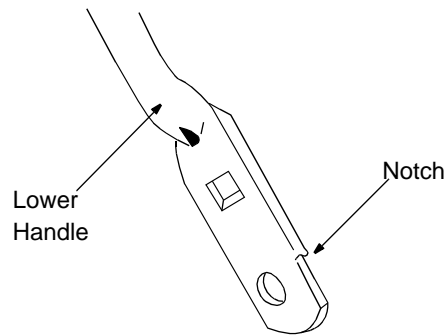

FIGURE 10
- Turn the lower handle around so the notch on the bottom of the lower handle is facing forward as shown in Figure 10. Reassemble, placing the bottom holes in the handle over the weld pins in the handle mounting bracket.